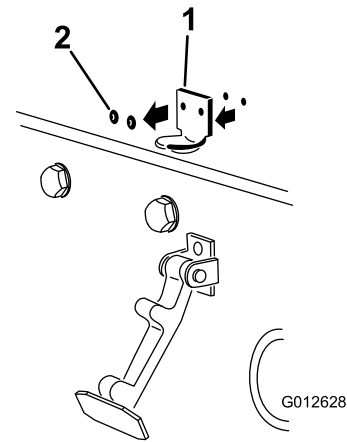

Figure 6
2. Remove the (2) rivets securing the hood latch bracket to the hood (Figure 6). Remove the hood latch bracket from the hood.